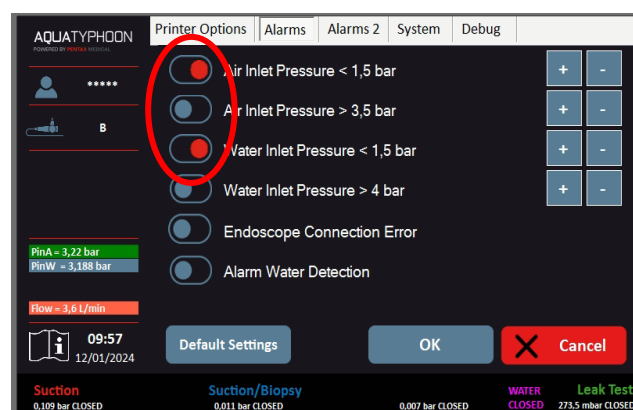

Figure 48. Deactivating alarms in the Settings
1. Deactivate air and water minimal pressure alarm in the Settings/Alarms (see Figure 48).
12. At the end of the maintenance cycle, reactivate air and water minimal pressure alarm (Figure 48)